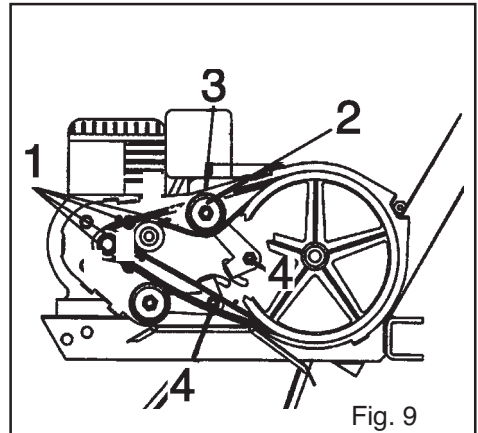

Fig. 9
1. After having assembled the belts, check that these are inside stakes 1 (Fig. 9).
2. In order to avoid great damage to the rear gear belt, adjust the control wires in such a way that the external diameter of the belt-tightener skims the external profile of bulkhead 2 (Fig. 9).
4. Avoid an excessive tightening of nuts 4 as this would cause an incomplete return of the belt-tightener and consequently would wear and break the belt.; therefore, check that the belt-tightener moves freely along the whole stroke (Fig. 9).